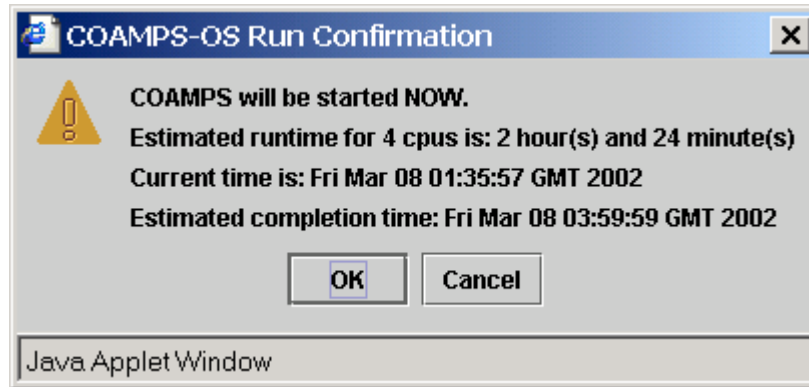

Figure 31. COAMPS-OS Run Confirmation
4. If the user wishes to run the COAMPS model immediately, click on the **Run COAMPS NOW** button. Clicking the **Run COAMPS NOW** button opens a **Run Time Estimate** dialog as shown in Figure 31. The dialog shows an estimated run time for the project and allows the user to change the project configuration before starting a COAMPS forecast. Click the **Cancel** button to cancel the run and change the project configuration. Users *must* re-save the project after making any changes in order for the changes to be saved with the project for a future run. If no changes are desired, click **OK** in the **Run Time Estimate** dialog to start a COAMPS forecast with the saved project configuration.